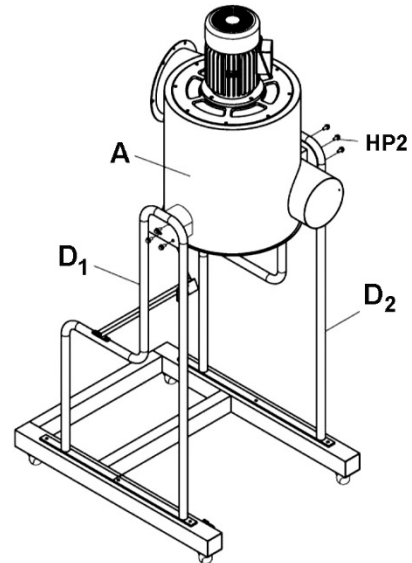

Figure 5
5. Lift main housing (A) using hoist with straps through lifting rings atop main housing. If hoist is not available, at least **2 persons** must lift housing.
6. Position main housing (A) between left and right stands (D1, D2), and secure with six flange head screws (HP2). See Figure 5.